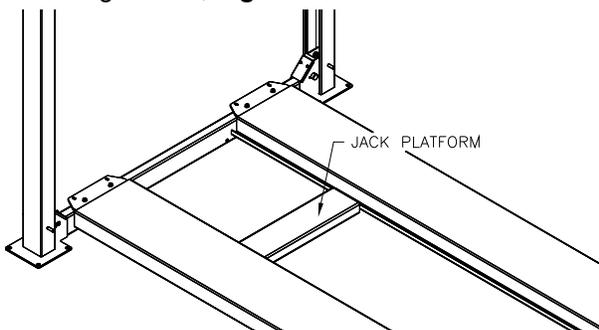

Fig 28 – Jack Tray
- 1) The Jack Tray rests on the jack rails between the runways. It can be positioned as needed along the rail, **Fig 28**.